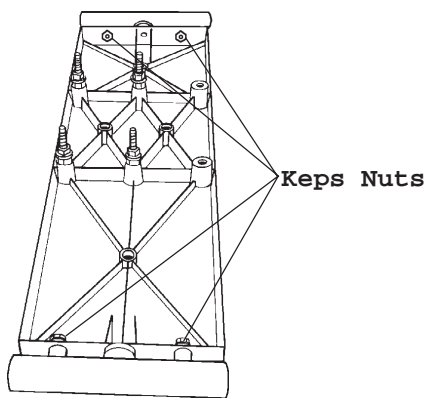

Figure B-105
- 77. If the extension table's tube is not aligned with the worktable's tube, use a 7/16" wrench to slightly loosen both keps nuts (248) attaching the tube to the extension table. Make the needed adjustments, then re-tighten the nuts. See Figure B-105.